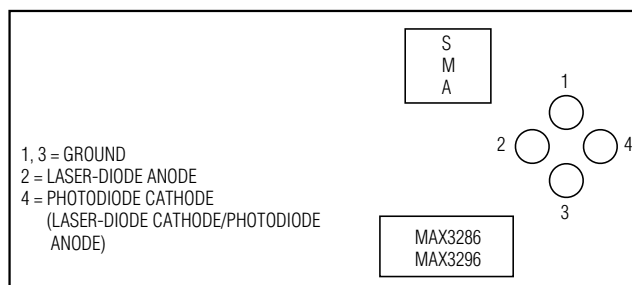

Figure 1. Optical Connection Diagram
- 2) Make sure nothing is installed in the laser socket (Figure 1).
- 9) Place jumpers across JU2 (EN), JU3 ($\overline{EN}$), and JU4 (PORDLY).
- 10) If you intend to power the board from a +5V supply, place a jumper across JU1 (LV). **Do not apply power yet.**
- 4) Connect a laser to the board (Figure 1).